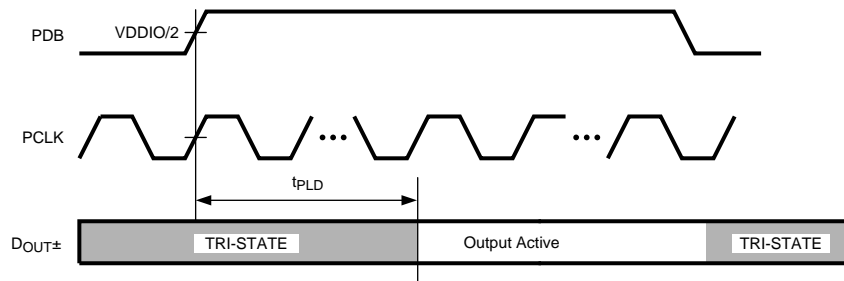

Figure 10. Serializer PLL Lock Time
| $t_{PLD}$         | Serializer PLL Lock Time$R_L = 100 \Omega^{(1) (2)}$ (Figure 10)  |  | 1     | 2   | ms   |